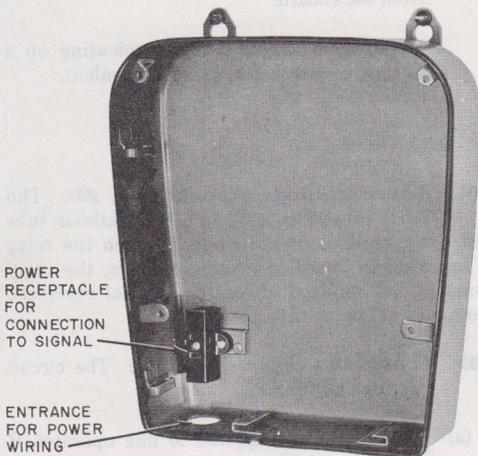

Fig. 3—KS-16301, List 9 Backbox
- Install backbox, List 9 or 11, so that the customer may have the commercial power connected (Fig. 3).